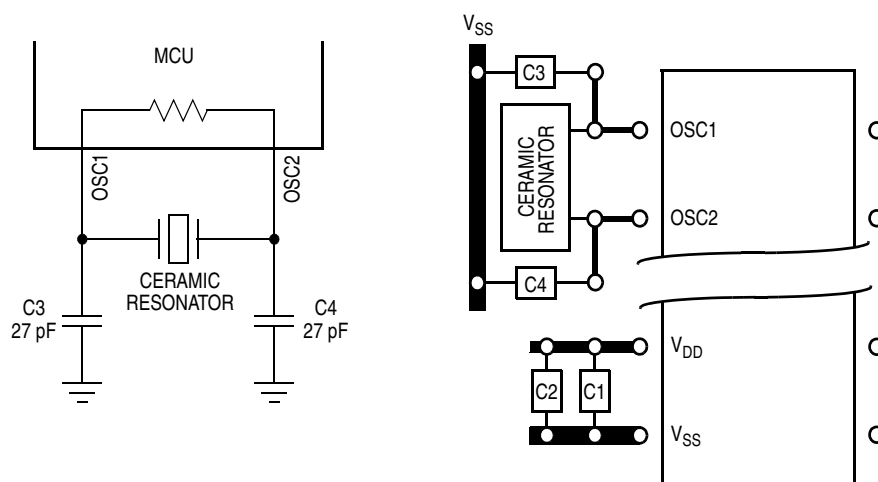
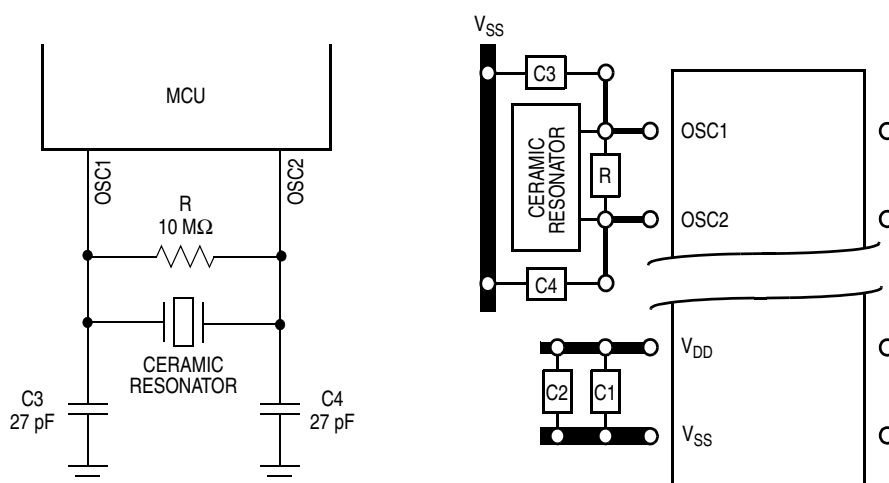
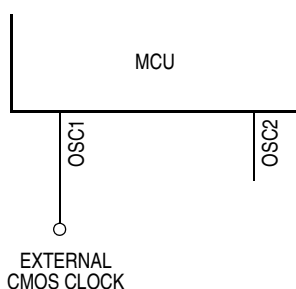

Figure 1-6. Ceramic Resonator Connections with Oscillator Internal Resistor Mask Option
Figure 1-7. Ceramic Resonator Connections without Oscillator Internal Resistor Mask Option
Figure 1-8. External Clock Connections
2. Ceramic resonator (See Figure 1-6 and Figure 1-7.)
3. Resistor/capacitor (RC) oscillator (Refer to Appendix A MC68HRC705KJ1.)
4. External clock signal as shown in (See Figure 1-8.)
To reduce cost, use a ceramic resonator instead of the crystal. The circuits shown in Figure 1-6 and Figure 1-7 show ceramic resonator circuits. Follow the resonator manufacturer's recommendations, as the resonator parameters determine the external component values required for maximum stability and reliable starting. The load capacitance values used in the oscillator circuit design should include all stray capacitances.
An external clock from another CMOS-compatible device can be connected to the OSC1 input, with the OSC2 input not connected, as shown in Figure 1-8. This configuration is possible regardless of whether the crystal/ceramic resonator or the RC oscillator is enabled.